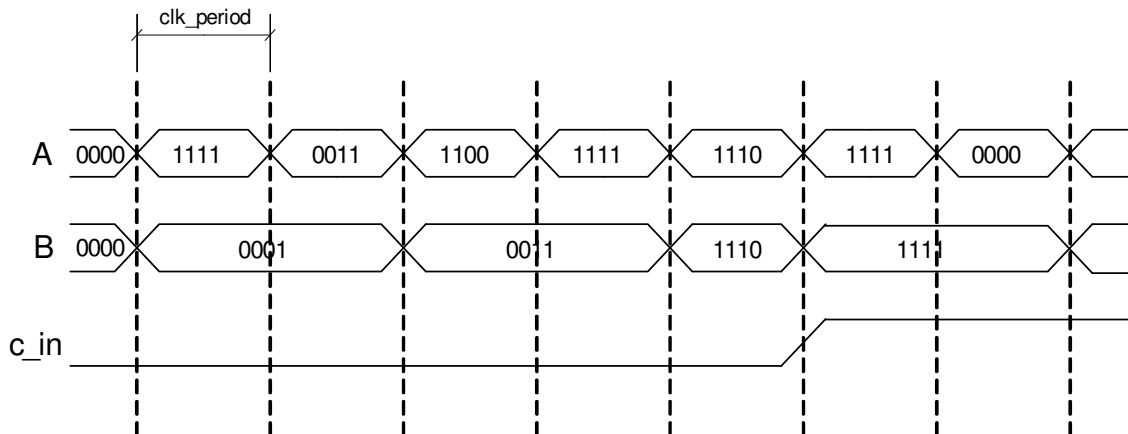

Figure 15; Desired waveform for 4-bit full adder simulation
5. Creating a testbench; Similar to steps 2 and 3 create a new source for the test bench. Go to **Project** → **New Source**, select **VHDL Test Bench** and enter the name “four\_bit\_full\_adder\_tb”. Associate the test bench with the four\_bit\_full\_adder source file. Click **Next** → **Finish**. The result will be a new source file where the skeleton is ready for you to fill it out with the processes per each signal. Describe the input signals for simulation following the waveform graph in figure 15.